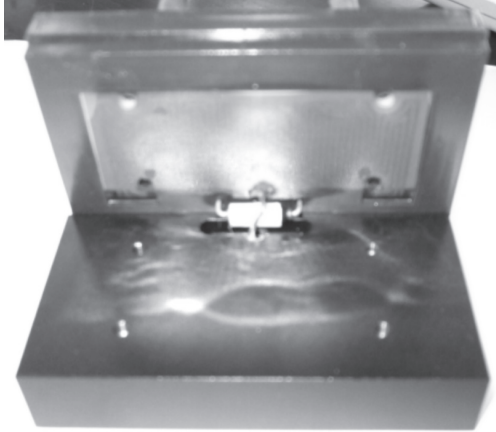

Fig.19
2.4.9 Remove the 6 screws in above picture, the heat film is as Fig. 19